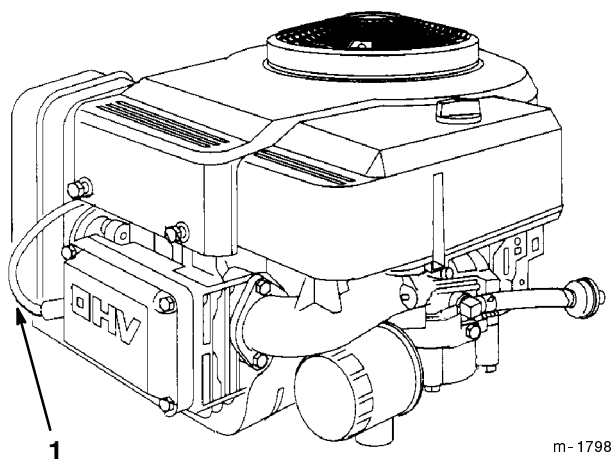

Figure 22
3. Pull the wire off the spark plug (Fig. 22). Now clean around the spark plug to prevent dirt from falling into the engine and potentially causing damage.
3. Push the wire onto the spark plug (Fig. 22).